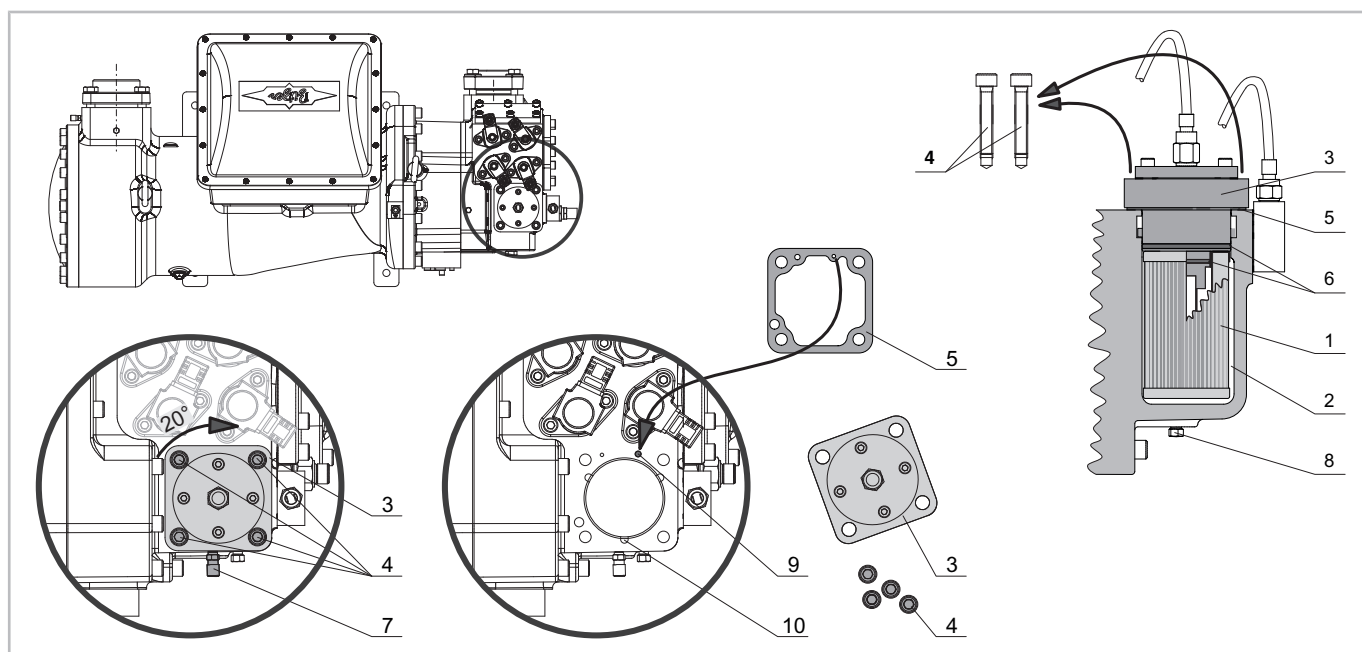

Fig. 13: HS.85: Replace oil filter
- HS.85: in front of the oil filter chamber, for replacement of the internal oil filter (see figure 13, page 23).
### HS.85: Replacing the internal oil filter (see figure 13, page 23)